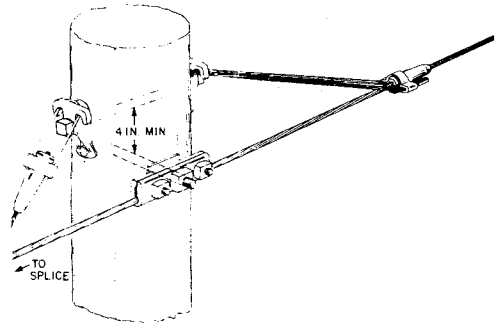

Fig. 18—False Deadend Using Strandvise
- (5) Push the cartridge onto the strand. Do not twist the cartridge or strand or stop the forward motion of the cartridge until the strand end is completely through it. This prevents the strand wires from becoming disengaged from the pilot cup and fouling the jaws of the chuck.
- (6) Push the cartridge along the strand to the desired position and place it in the yoke. When positioning the cartridge, consideration should be given to the location of the strand splice. It is desirable to locate the splice on the opposite side of the pole from the strandvise. However, in the case of an extension of an existing strand, it may be necessary to locate the splice between the suspension clamp and the false deadend strandvise. Figure 18 illustrates a completed false deadend using a strandvise.